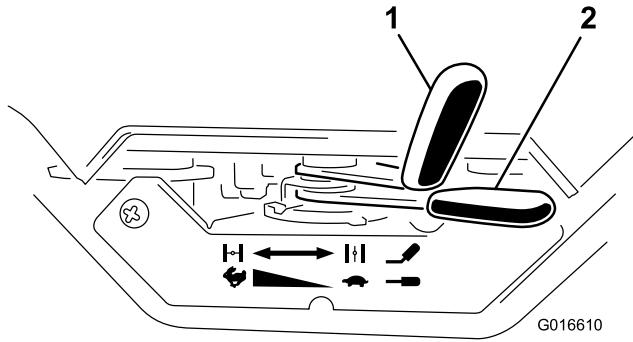

Figure 12
1. Move the choke lever to the On position (Figure 12).
- 2. Move the throttle lever one third of the way to the Fast position (Figure 12).